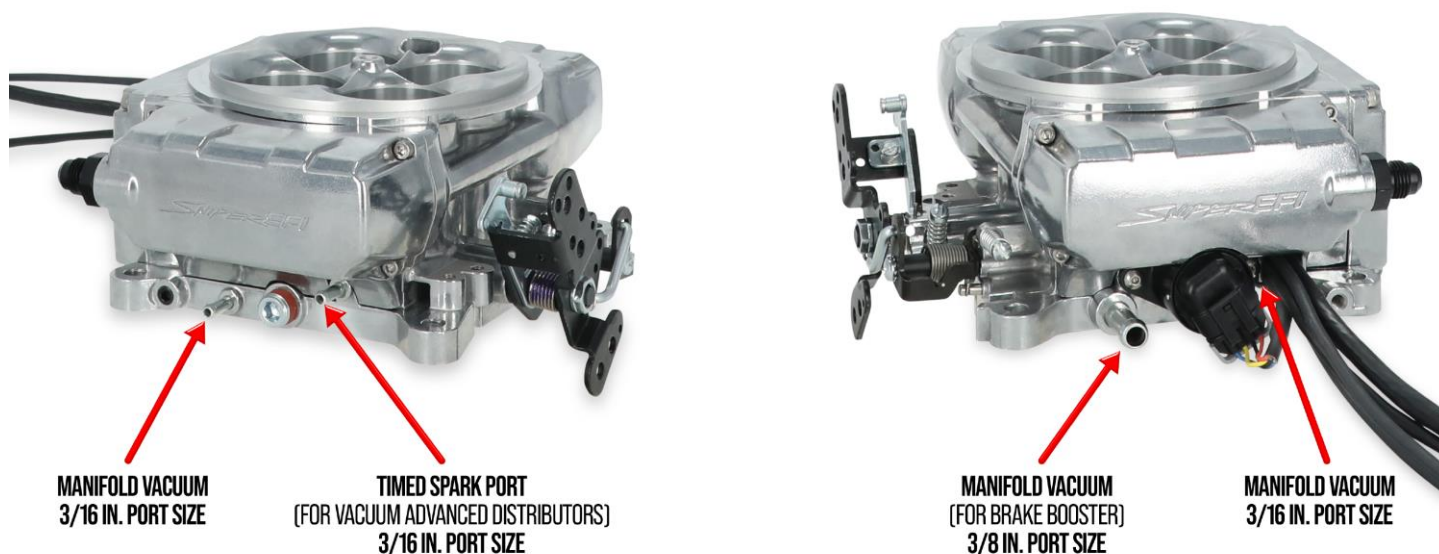

FIGURE 3
5. Reconnect the appropriate vacuum hoses to the Sniper 2 EFI throttle body. **Be sure to plug or cap any vacuum sources not used on both the Sniper 2 EFI Throttle Body and on the Engine.** See **Figure 3** for diagram of vacuum ports.